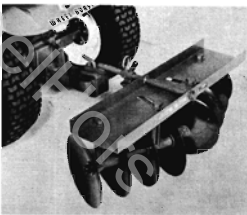

FIGURE 3
1. **Clevis Type A** — If the tractor is equipped with a clevis hitch, the disc hitch clevis must be installed on the hitch bar with the  $\frac{1}{2}$ -13 x 1 $\frac{1}{4}$  bolt and nut as shown in Figure 3. **Note:** The stabilizer bolts should not be tightened for operation thus allowing the disc to pivot for turns. Tighten the stabilizer bolts when transporting the disc. When extra weights are added, it is not possible to lift the disc with the hand lever and the discs should be set at 0° for transporting.